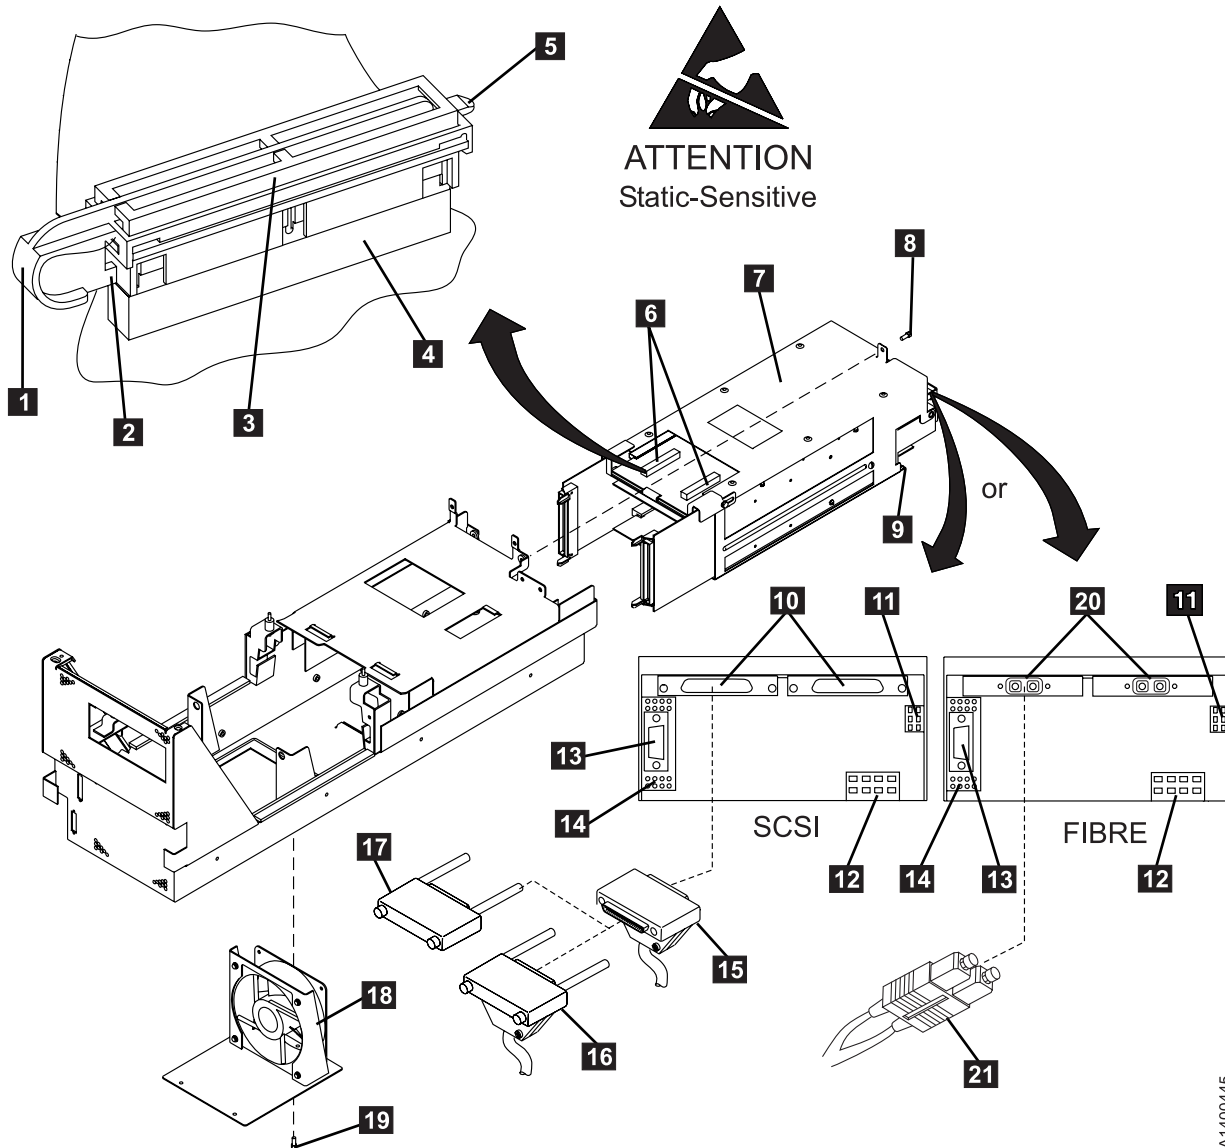

Figure 10-49. Card Pack Showing SCSI and Fibre Cables
3. See Figure 10-49 on page 10-70. Remove the screws **19** that secure the card pack fan **18** to the bottom of the deck enclosure and lower the fan assembly.
7. Remove the Library Manager (LM) connector, if present and the SCSI or fibre channel cable connector or connectors from the back of the drive.